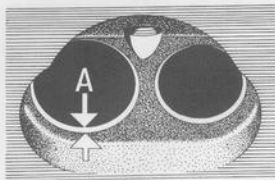

Fig. 2-32. Valve seat width $A=2\text{ mm (0.08")}$
2. Grind the valve seats. Use an electrically driven grinder or a hand milling cutter. A pilot spindle must be carefully fitted before work is started and any worn guides must be replaced with new ones. The seat should be ground until a good sealing surface is obtained. The angle is 45° and the width of the sealing surface should be approx. 2.0 mm (0.08") , see "A" Fig. 2-32. If the sealing surface is too wide after grinding, it can be reduced by using a 70° grinding stone from the inside and a 20° grinding stone from the outside.